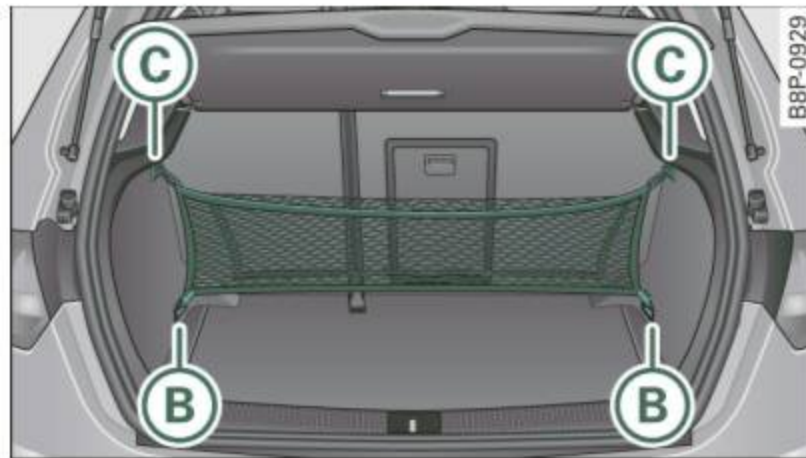

Fig. 83 Luggage compartment: cargo net attached to hooks
- Engage two hooks into the fastening eyes (B) ⇒ fig. 83.
- Pull the net up and secure the eyes (C) on the hooks.